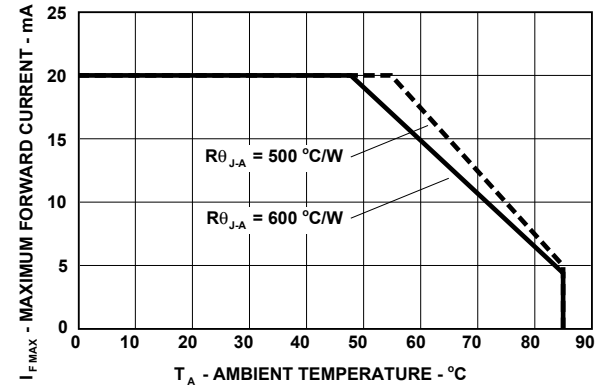

Figure 4. Maximum DC Forward Current vs. Ambient Temperature.
The derating curve, Figure 4, is a function of drive current, T_{JMAX} and $R_{\theta_{J-A}}$. Typically derating curves are given from two thermal resistance junction-to-ambient conditions, $R_{\theta_{J-A}} = 500^{\circ}C/W$ (dashed line) and $R_{\theta_{J-A}} = 600^{\circ}C/W$ (solid line). These values are based on the different PCB materials as the thermal resistance pc-to-ambient will be different. The derating curves are lines of T_{JMAX} with slopes equal to the specific maximum $R_{\theta_{J-A}}$ values indicated, intersecting the temperature axis at the maximum LED junction temperature point with zero current. Operation of the LED device at a particular drive current should be at or below a derating curve with a thermal resistance-to-ambient at or less than the maximum value indicated for that curve.
In order to determine the derated drive conditions from the datasheet for an elevated ambient temperature, the value for $R\theta_{J-A}$ must be determined. Once the value for $R\theta_{J-A}$ has been established, the required current derating can be determined for safe operation at the elevated temperature directly from Figure 4. The basic design steps are:
Step 3: From Figure 4, the maximum allowable DC forward current at $T_A (60^\circ\text{C})$ is 17mA.